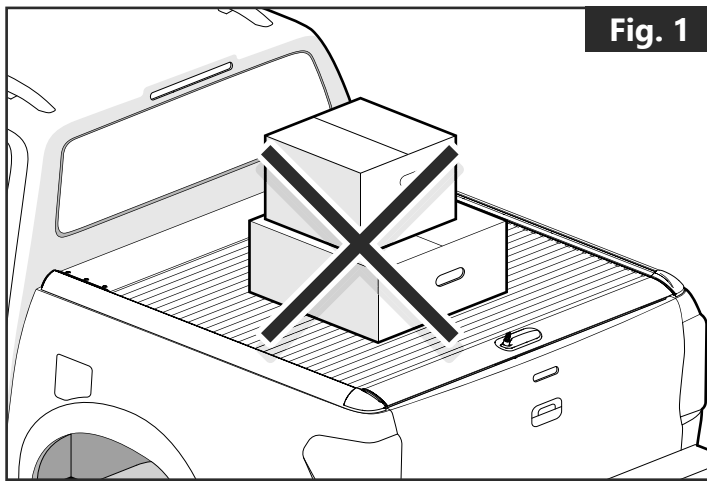

Fig. 1
- The Roll cover is not designed for loading although it can support normal snow loads. No part of it can support any load from cargo or persons and the product might be damaged if somebody stands on it. **(Fig. 1)**